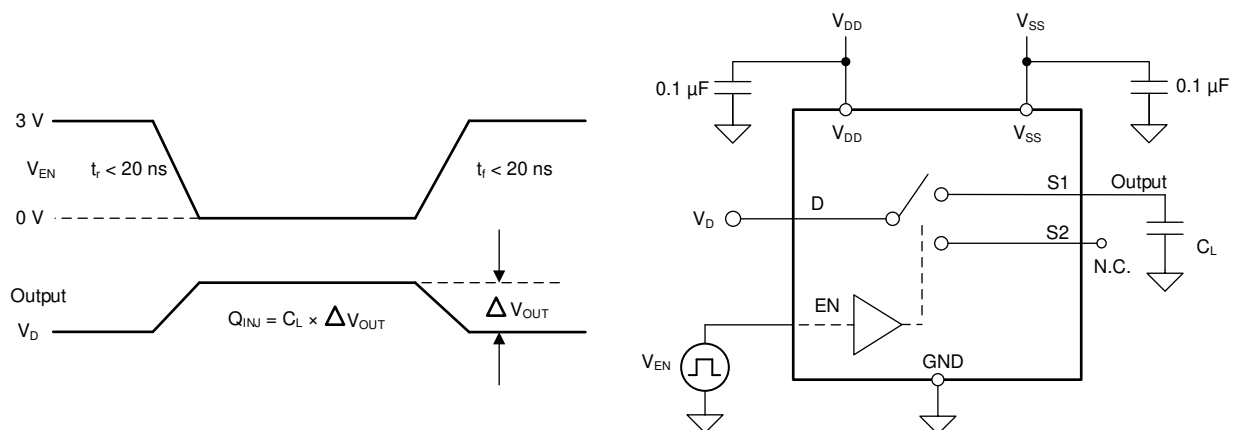

图 7-9. Charge-Injection Measurement Setup
The TMUX7219M has a transmission-gate topology. Any mismatch in capacitance between the NMOS and PMOS transistors results in a charge injected into the drain or source during the falling or rising edge of the gate signal. The amount of charge injected into the source or drain of the device is known as charge injection, and is denoted by the symbol  $Q_C$ . 图 7-9 shows the setup used to measure charge injection from source (Sx) to drain (D).